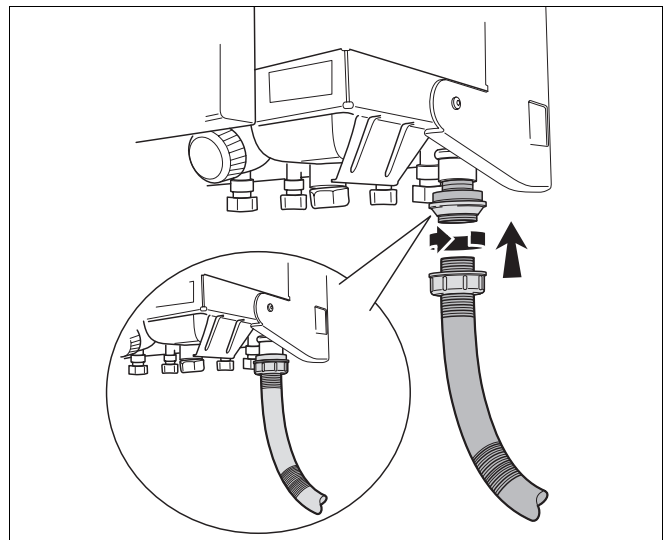

fig. 9 Hose connection
- Screw the hose to the syphon as shown in fig. 9.